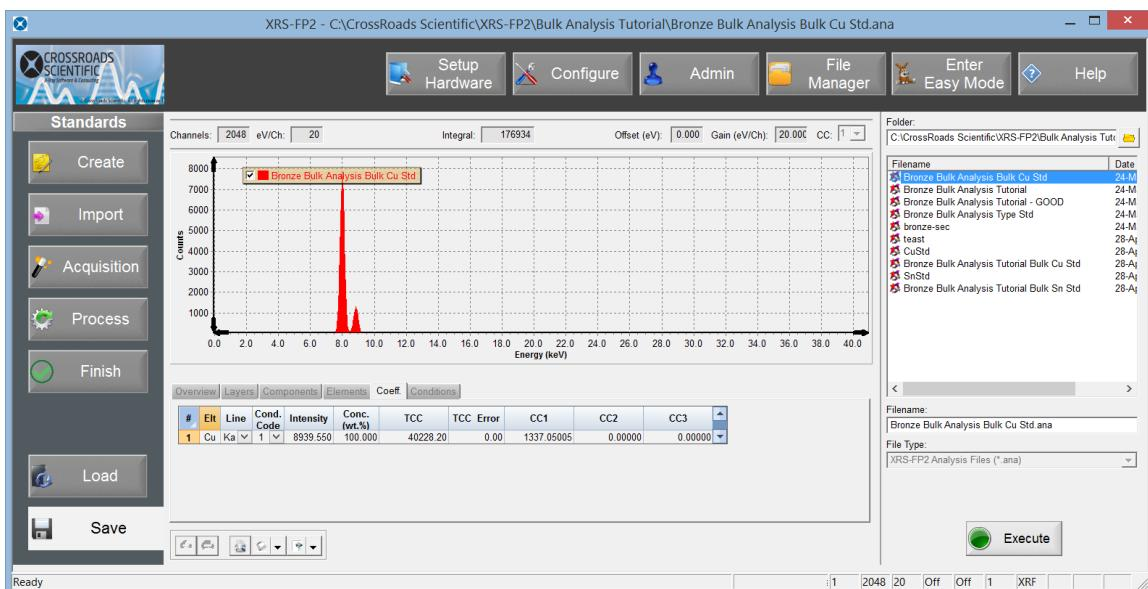

Figure 23. XRS-FP2 Standards Workflow – Save. Save the bulk Cu standard.
11. Then select the **Save** button. Save the pure bulk Cu Calibration to a new name such as “Bronze Bulk Analysis Bulk Cu Std.ana”. See Figure 23 below.